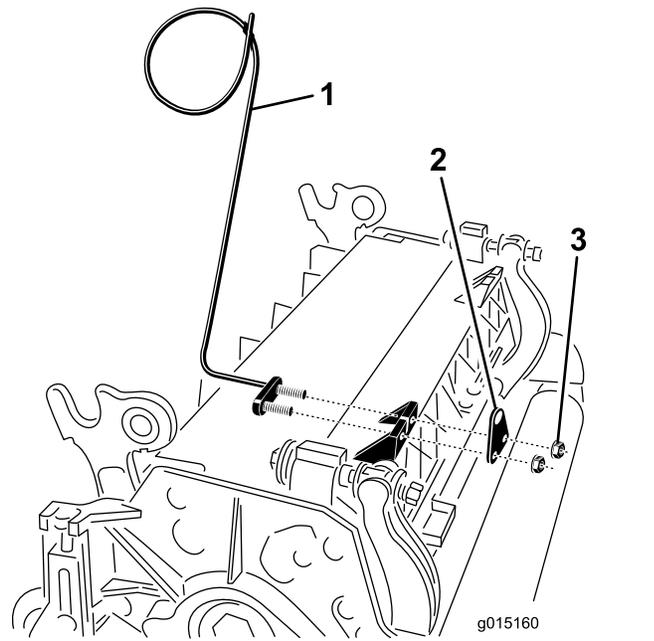

**Figure 6**
**Note:** Position the bolt head to the outer side of the tab as shown in Figure 6.
D. Mount the rod bracket to the cutting-unit tabs with the carriage bolts and nuts (Figure 6).